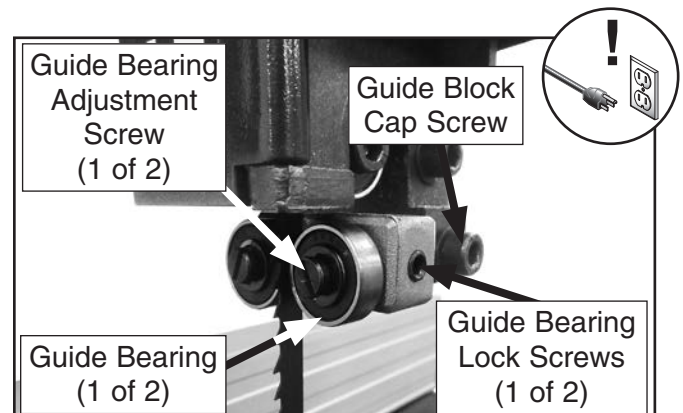
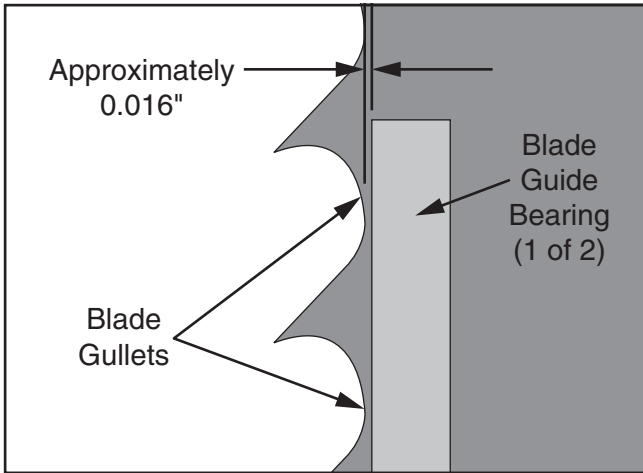
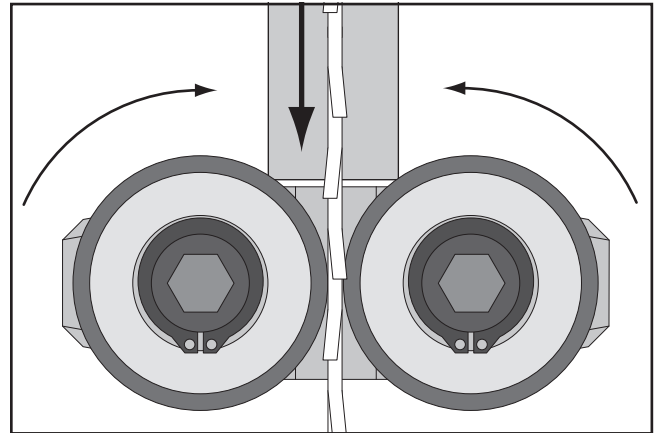

Figure 25. Upper guide bearing components.
Figure 26. Blade guide bearing positioned just behind blade gullets.
Figure 28. Blade guide bearings evenly and lightly touching the sides of the blade.
- Loosen guide block cap screw shown in **Figure 25**, then laterally position guide bearings just behind blade gullets, as illustrated in **Figure 26**, then re-tighten cap screw to secure setting.
3. Loosen guide bearing lock screws (see **Figure 25** on **Page 23**).
4. Loosen both guide bearing adjustment screws (see **Figure 25** on **Page 23**), then position guide bearings so they evenly and lightly touch sides of blade (see illustration in **Figure 28**) without deflecting it one way or the other.